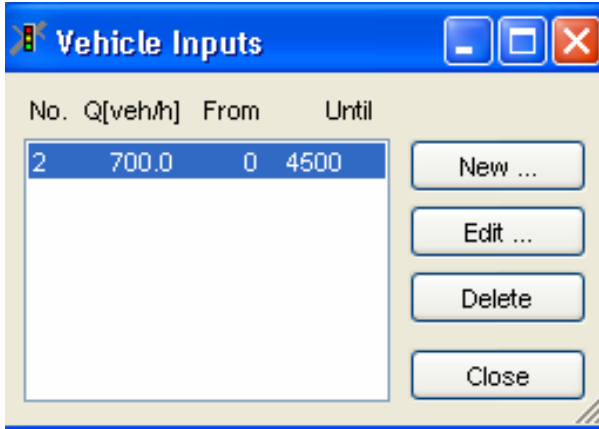
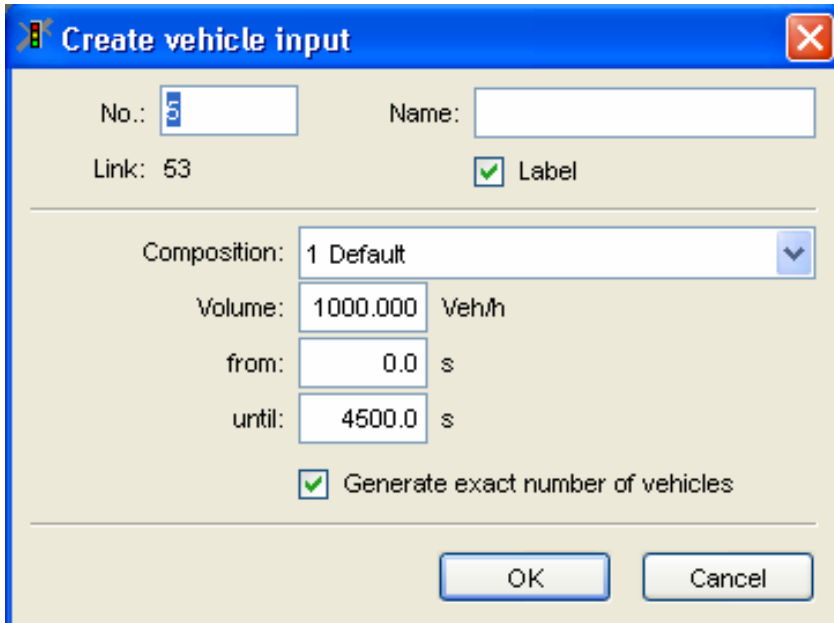

Figure 4. The “Vehicle Inputs” window.
Figure 9. The “Create vehicle input” window.
- Double click the vehicle input that you want to edit. The “Vehicle Inputs” window appears (see Figure 4).
- The “Create vehicle input” window appears (see Figure 9).
Note: You can add different volumes for the same traffic origin during different time periods. In the “Vehicle Inputs” window as shown in Figure 4, click at the “New” button, the “Create vehicle input” window appears as shown in Figure 9. Follow the above procedures to add a different volume from existing ones for the selected traffic origin. Be sure to specify different time periods for different vehicle inputs .